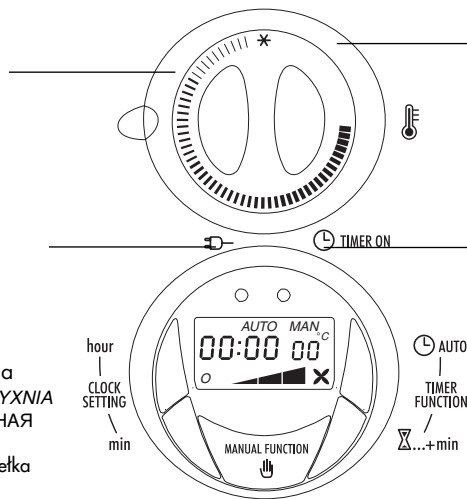

Fig. 1
- Before plugging in the heater, **check** that the voltage of your domestic supply corresponds to the voltage (V) indicated on the rating label of the heater and that the socket and power line are appropriately dimensioned.
- When you plug in the appliance, the red pilot light will illuminate (Fig. 1).
- Press the button "**hour**" until the display shows the hours for the correct time, then release the button (fig. 1).
- Press the button "**min**" until the display shows the minutes for the correct time, then release the button (fig. 1).
To operate the heater without timer press the "**MANUAL FUNCTION**" button. (Fig. 1). By pressing the "**MANUAL FUNCTION**" button one or more times, the appliance will select the operating heating power, as follows:
Press the **"MANUAL FUNCTION"** button and it is recommended to select the maximum power level. Set the thermostat dial to the **"X"** position (Fig. 1). The display will show 5°C (see figure below). When set in this way, the appliance will switch on automatically only if the room temperature falls below 5°C, to prevent freezing, at minimum energy consumption. If the temperature display will show "LO".
To operate the appliance without using the programmes (timer), press the "MANUAL FUNCTION" button (Fig.1). The yellow lamp will go off.